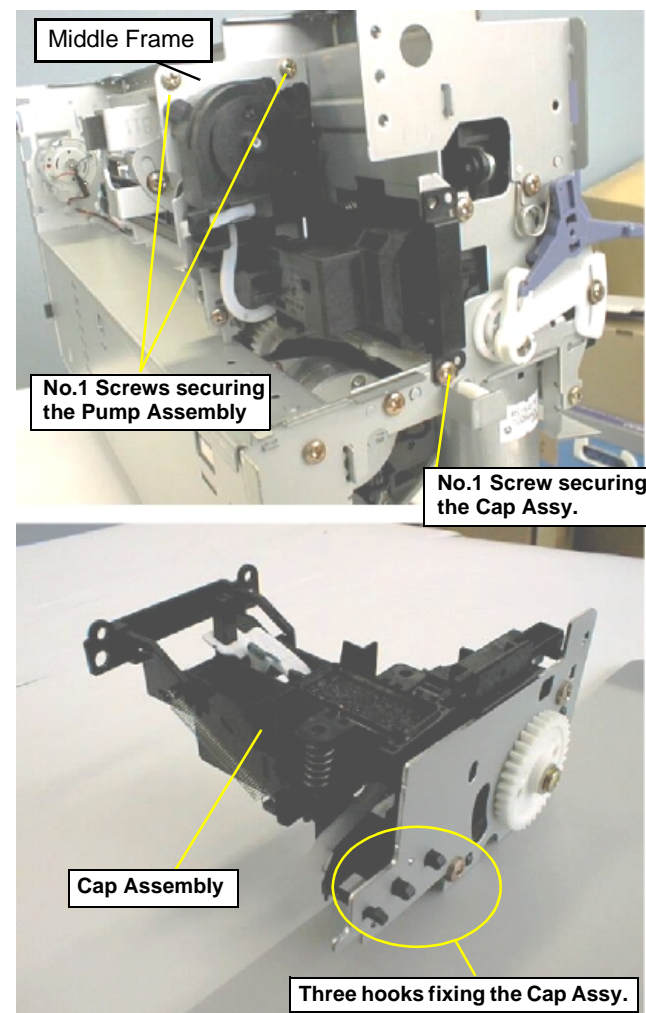

Figure 4-14. Removing the Pump Assembly & Cap Assembly
- 6) From the Middle Frame, remove three screws (No.1) securing the Pump Assembly in the Ink System Assembly. Then, from the Right Frame, remove one screw (No.1) securing the Cap Assembly in the Ink System Assembly. Refer to Figure 4-14.
- 7) Release three hooks fixing the Cap Assembly to the Metal plate for Ink System Assembly and remove the Cap Assembly. Refer to Figure 4-14.
- After setting the three protrusions of the Cap Assembly to the suitable fixing holes on the metal frame, secure the Ink System Assembly to the Middle Frame with the screws. See Figure 4-14.